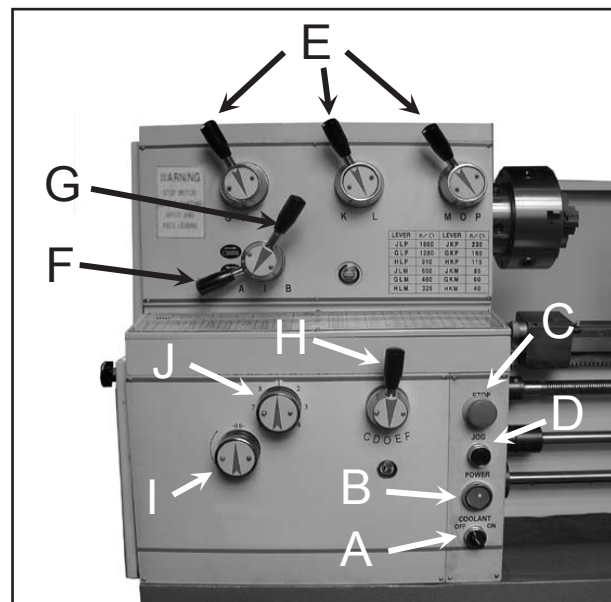

Fig. 13
3. Leadscrew/Feed Rod Directional Lever (F, Fig. 13) - located on front of headstock. Moving the lever up causes carriage travel toward the tailstock. Moving the lever down causes carriage travel toward the headstock. When chuck is spinning in the forward or counter-clockwise direction. Do not move lever while machine is running.
4. Feed/Lead Selector Lever (G, Fig. 13) - located on the front of the headstock. Used whenever setting up for threading or feeding.
5. Feed/Lead Selector Lever (H, Fig. 13) - located on the front of the gearbox. Used in setting up for feeding and threading. Positions "F" and "D" are for the feed rod. Positions "E" and "C" are for the feed screw. Position "0" is neutral.
6. Lock Knob (I, Fig. 13) - located on the front of the gearbox. With the knob in the six o'clock position, feed/lead selector knob (J, Fig. 13) may be adjusted. With the knob in the twelve o'clock position, the feed/lead selector knob (J, Fig. 13) is locked.
7. Feed/Lead Selector Knob (J, Fig. 13) - located on front of the gearbox. Used for setting up for feeding and threading.